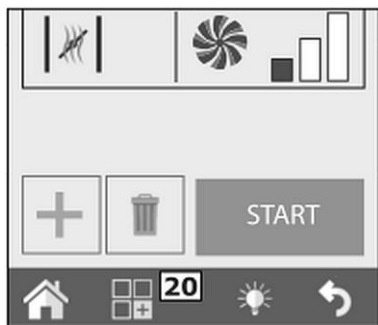
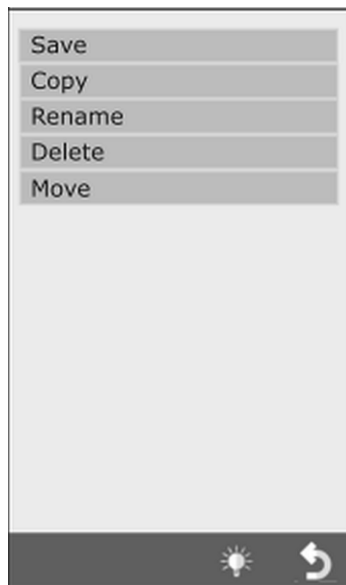

Fig. 24
Fig. 25
5. In 'Functions' menu (20, Fig. 24), select 'Save', and then 'Copy'.
1. If you want to move a thermal processing program from one group to another, open the selected thermal processing program and press 'Functions' key (20, Fig. 24).
2. Then select 'Save' and 'Move' (Fig. 25).
Open the thermal processing program and press 'Functions' key (20, Fig. 24), select 'Save' and then 'Rename' (Fig. 25). Type in the new name and press Enter.
1. Open the thermal processing program for removing and press 'Functions' key (20, Fig. 24), select 'Save' and then 'Remove' (Fig. 25).